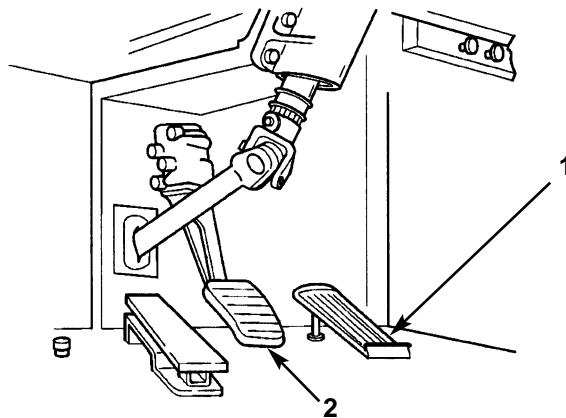

Figure 1. Testing Wet Service Brakes.
4. After driving through standing water or slush, drive slowly and test service brakes by maintaining moderate pressure on service brake pedal (figure 1, item 2).
6. To slow tractor, ease up on accelerator (figure 1, item 1), leave transmission in gear range already selected, and slowly apply service brake pedal (figure 1, item 2).
7. To stop tractor, release accelerator pedal (figure 1, item 1) and press service brake pedal (figure 1, item 2) to slow tractor. Continue to firmly depress and hold service brake pedal (figure 1, item 2) to bring tractor to a complete stop.